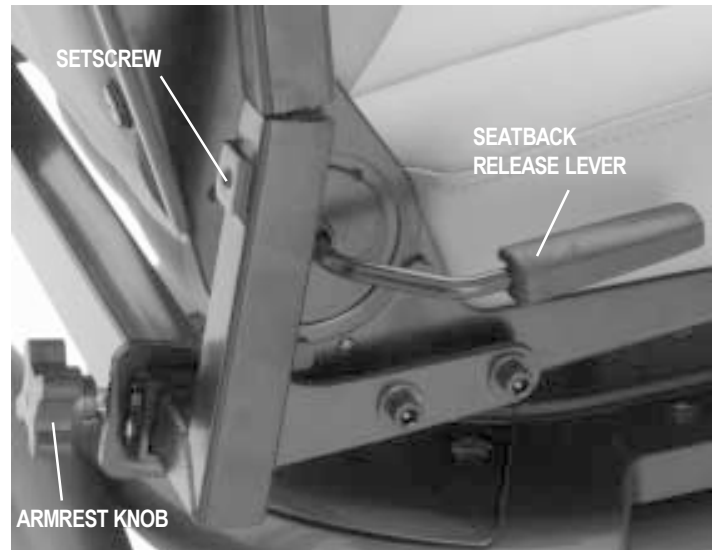

Figure 14. Seatback Angle Adjustment
If your Jet 10 Ultra is equipped with a reclining seat, you can adjust the seatback angle with the seatback release lever. The lever is located on the right side of the seat base. See figure 14.
1. Locate the two armrest knobs on each side of the armrest receiver bracket. See figure 14.
1. Loosen the setscrew on the armrest. See figure 14.